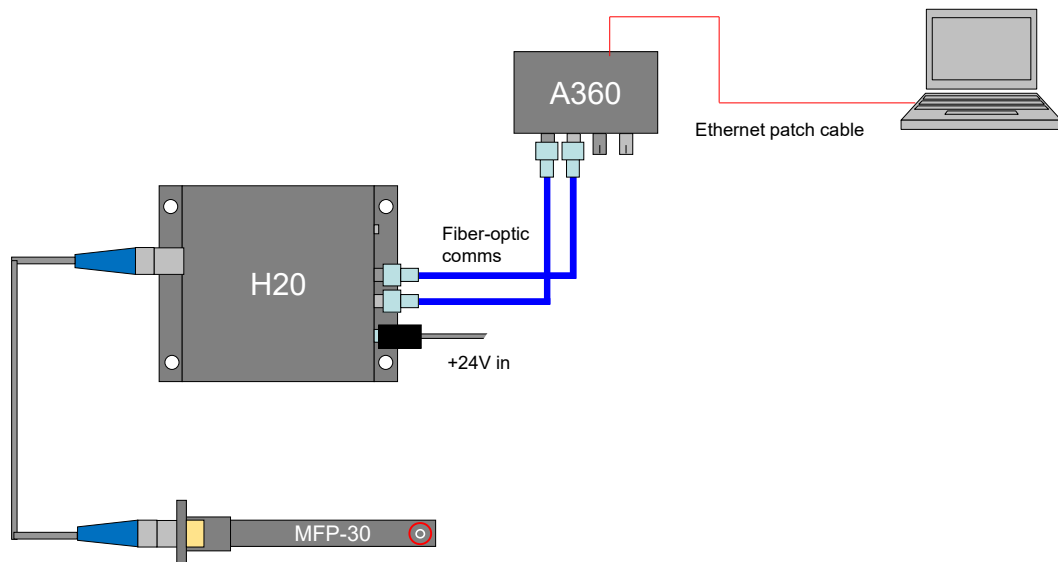

Figure 8. Example of a direct connection to the H20 via an A360 and Ethernet.
It is simplest to start with to connect the H20 directly to a loop controller as the only device on the loop, and with the loop controller connected directly to a PC by an Ethernet patch cable. Figure 8 shows such a connection to an A360 which we shall use to illustrate operation with the PSI DiagnosticG2 software. The H20 fiber-optic loop address switch can be set to anything between 0 and 15 (F). If you have more than one device on the loop, then they must all have unique settings.